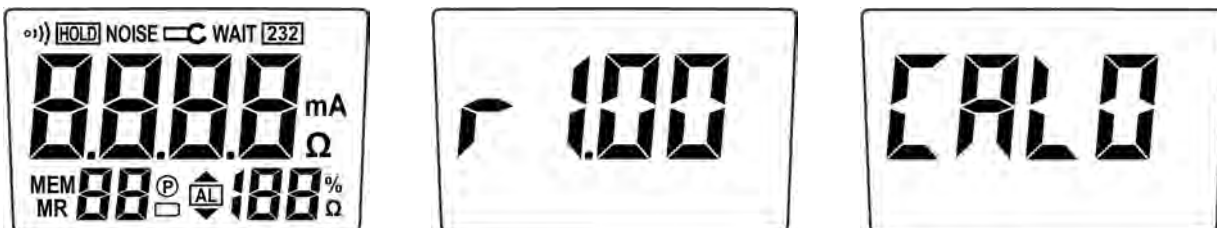

Fig. 3: Sequence of screens upon switching on the instrument
- The screen with all existing symbols (see Fig. 3 – left side)
- The screen with the loaded firmware version (see Fig. 3 – central part)
- Carries out the calibration process, showing a countdown which starts from “CAL.9” and comes down to “CAL.0” (see Fig. 3 – right side).